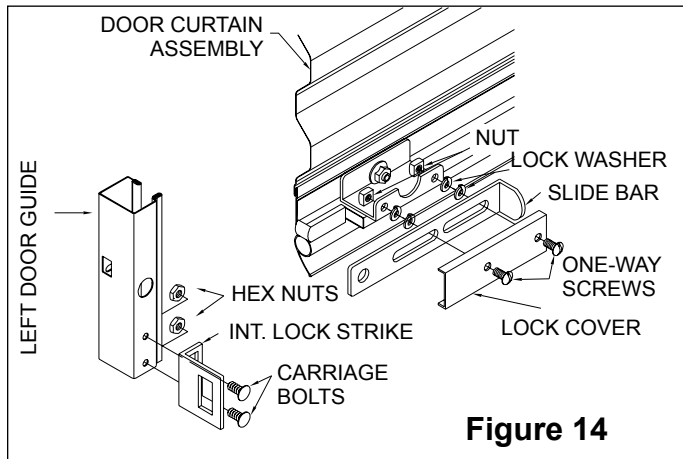

Figure 14
11.2 Assemble components as shown in *Figure 14*, noting that two (2) high collar lock washers are placed over each 1/4" one-way screw to allow the lockbar to slide freely.